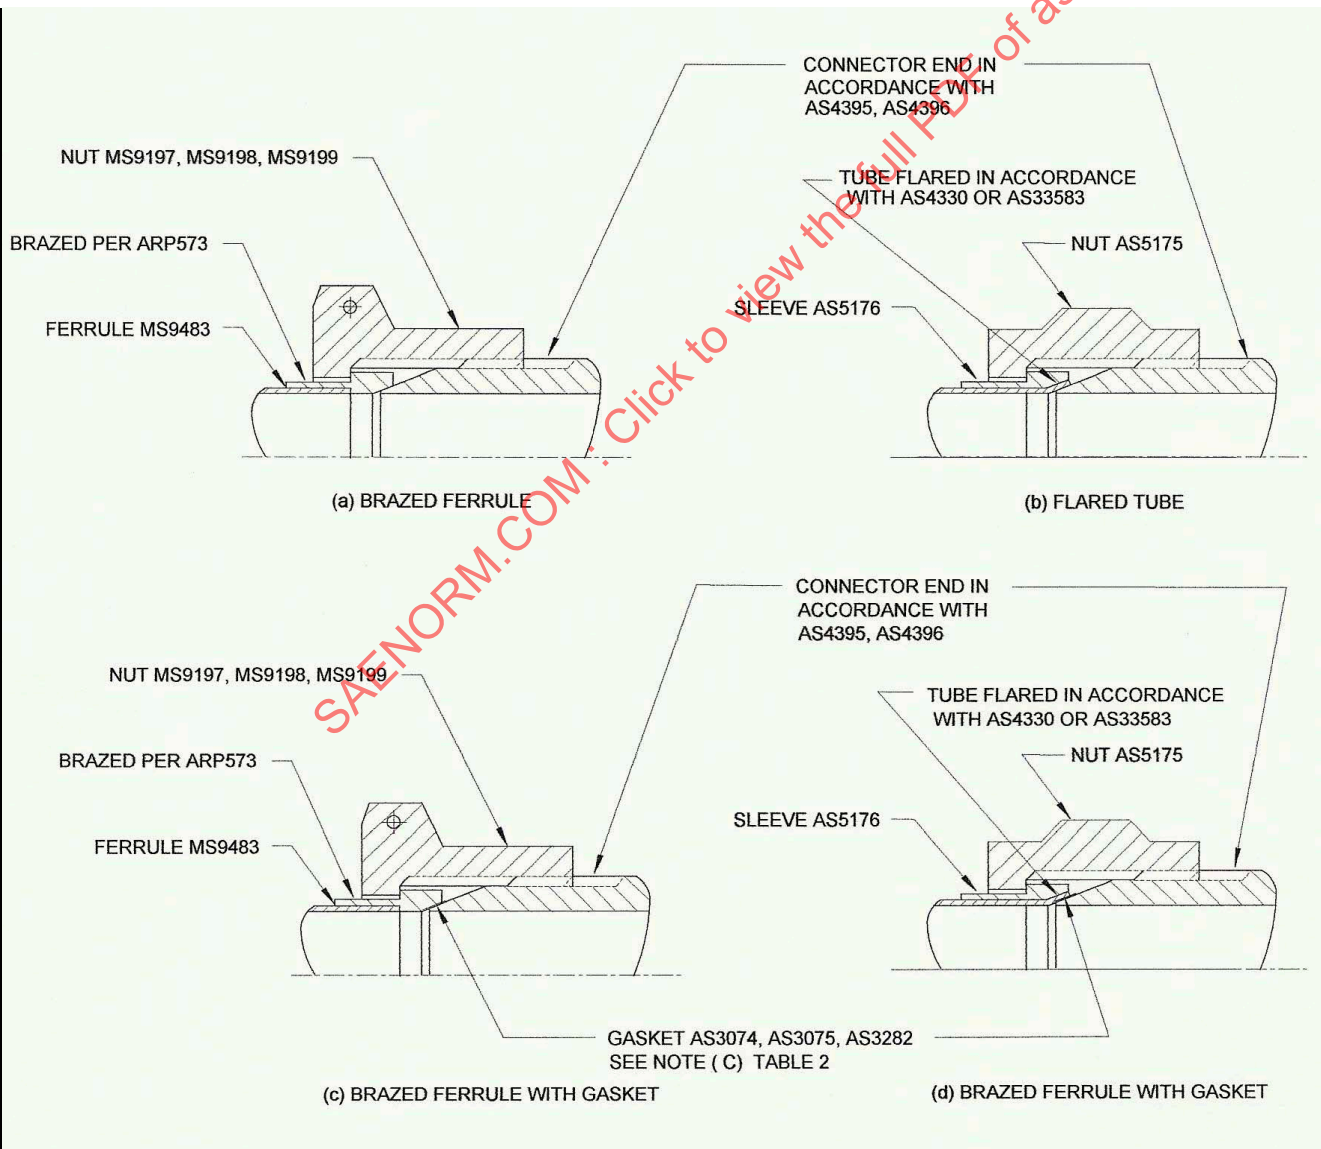

FIGURE 1 - CONE END CONNECTORS FOR FLARED TUBE AND BRAZED FERRULE
(C) Torque values are for nickel gasket seals used with steel fittings, see Figure 1.